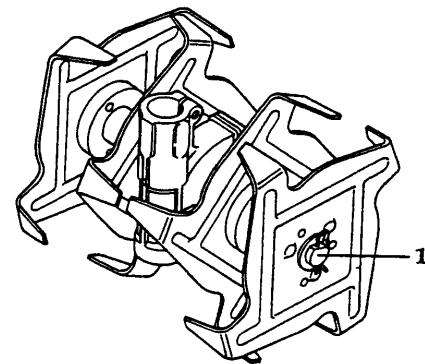

FIG. 9
Tines must be installed as shown in FIG. 9 or the unit will not function properly. The two outer tines have teeth pointing in one direction only, while the teeth of the inner tines point both outward and inward. Notice that each tine has a heavy, metal hub on one side, near the center. And that each side of a tine is stamped with a letter "A", "B", "C", or "D".
5. (FIG. 9) Secure both sets of tines by inserting snap pins (1) through the outer sets of holes in the shaft.
- c) Remove the snap pin and clevis pin securing the stabilizer bar (see FIG. 9). Adjust the stabilizer bar up or down according to the desired depth. NOTE: Move the stabilizer bar up for a more shallow cut or downward for a deeper cut. Reinstall the clevis pin and secure with the snap pin.